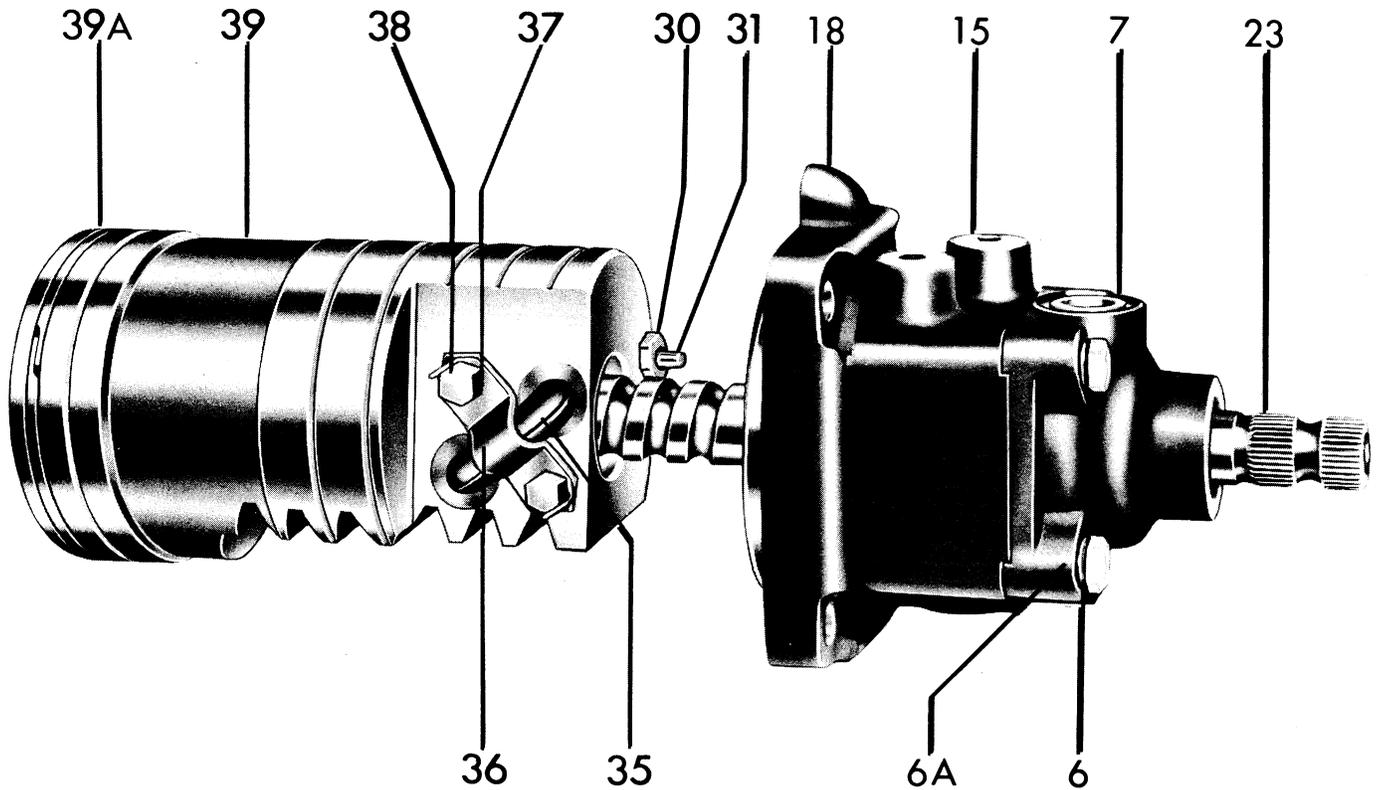
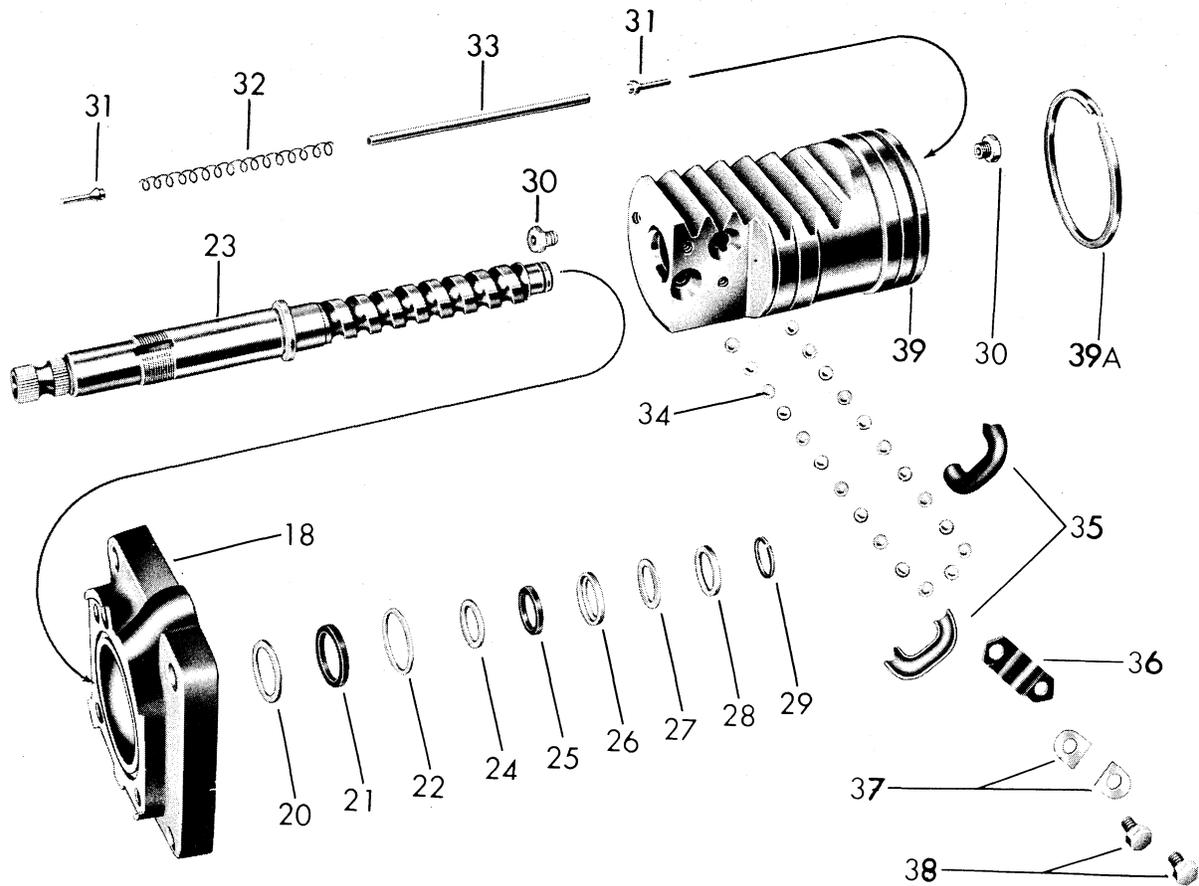

FIGURE 2-9
FIGURE 2-12
1. Carefully clamp the worm shaft (23) into a vise with soft-faced jaws to permit access to the serrated and threaded end. Assemble thrust bearing (13), thrust washer (14), valve assembly (15), thrust washer (14), thrust bearing (13), thrust washer (12), internal tang washer (11), external tang washer (10), and bearing adjustment nut (9). For adjustment details, see "Adjusting the Sector Shaft."
2. See Figure 2-12. Assemble backup washer (20), seal (21) and retaining ring (22) into valve adaptor (18).
4. **NOTE:** When assembling steel balls (34), alternate the bright and dark balls. Assemble sixteen steel balls (34) into rack piston (39) while slowly rotating worm shaft (23) counterclockwise. (See Figure 2-12.) Assemble the six remaining steel balls (34) into the ball return guide (35). Plug the ends of the ball return guide with grease or petroleum jelly and install in the rack piston (39). Assemble ball return guide clip (36), lock washers (37) and hex-head screws (38). Torque the screws to 8 ft. lbs.-10 ft. lbs. (11 N·m-14 N·m) and turn up ears on lock washers (37), Figure 2-9.